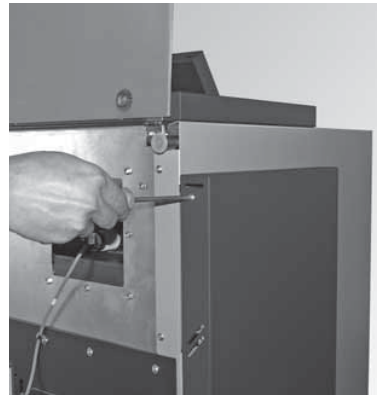

Fig. 33 Securing the left side panel using a screw at the rear
- Secure the "rear left side panel" using a screw at the rear – Fig. 33.